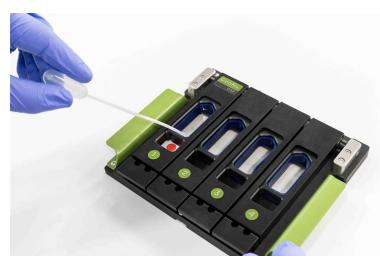

Figure 11: Adding buffer
5. Add **6 mL Buffer S** onto each slide (see Figure 11).